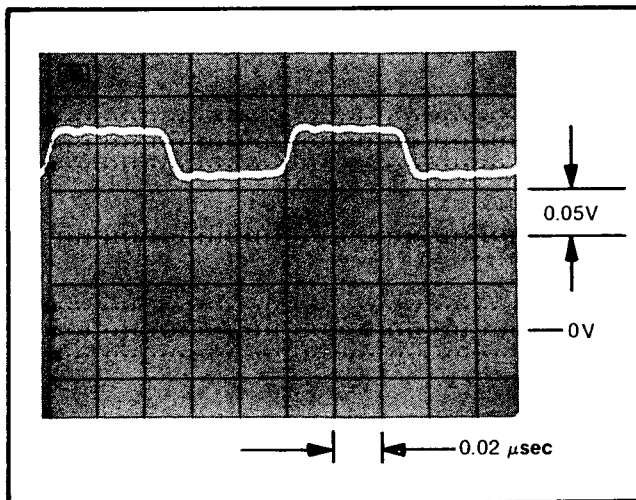

Figure 5-3. Input Amplifier Adjustment Waveform
f. Adjust A1R38 for a 50/50 duty cycle. Refer to the waveform in *Figure 5-3*.